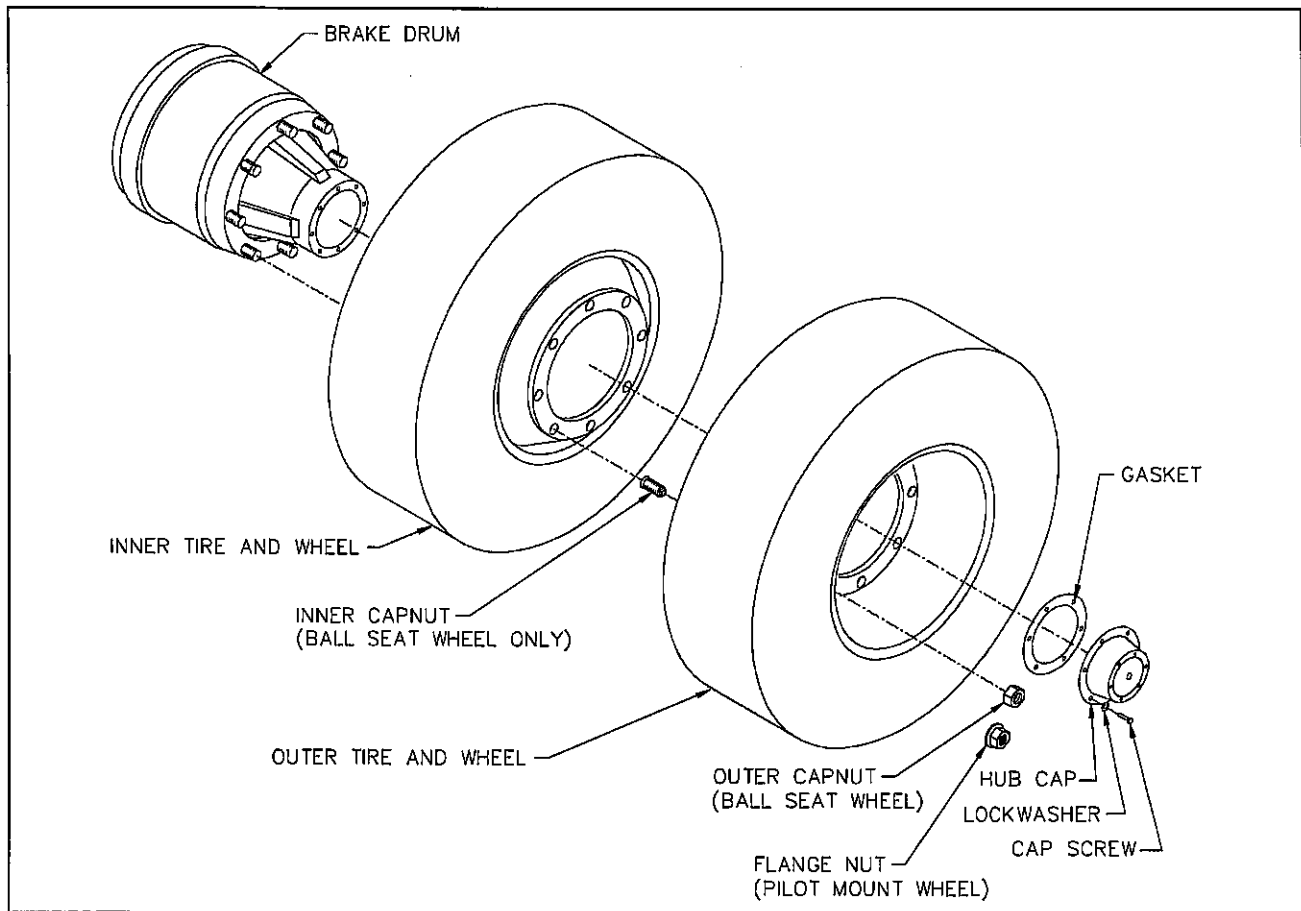

Figure 4-13 Mounting Tires and Wheels
a. Make sure that all mounting surfaces are clean and free of rust, dirt or paint. A wire brush may be used to clean these surfaces (see Figure 4-13).